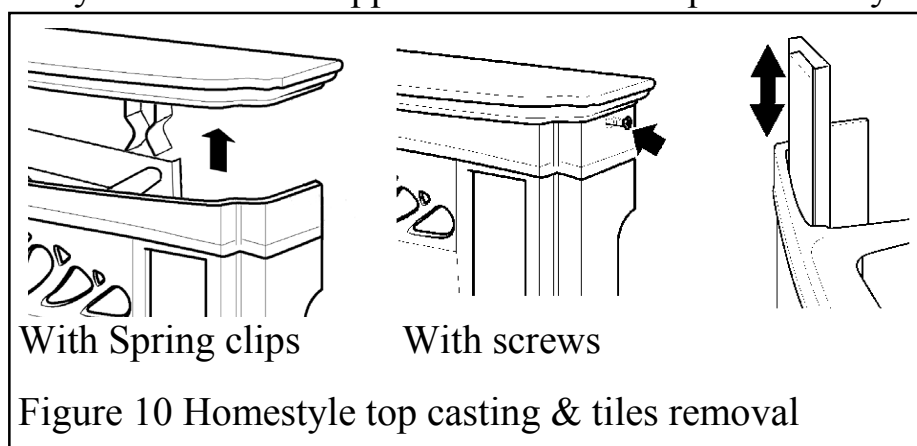

Figure 10 Homestyle top casting & tiles removal
- The top casting will have to be removed to insert the tile set. Some appliances have the top casting secured to the sides by screws. Other appliances have the top secured by spring clips. If the top is screwed to the sides, unscrew the two screws at the top of the side castings until they are loose enough to allow the top to be lifted off. There is no screw thread in the top casting, only in the side castings (See figure 10). If no screws are visible, the top can be removed by pulling it firmly upwards to release the spring clips (See figure 10).
- Remove the complete tile cassette by sliding the cassette channel up and out of the front casting. See figure 10.